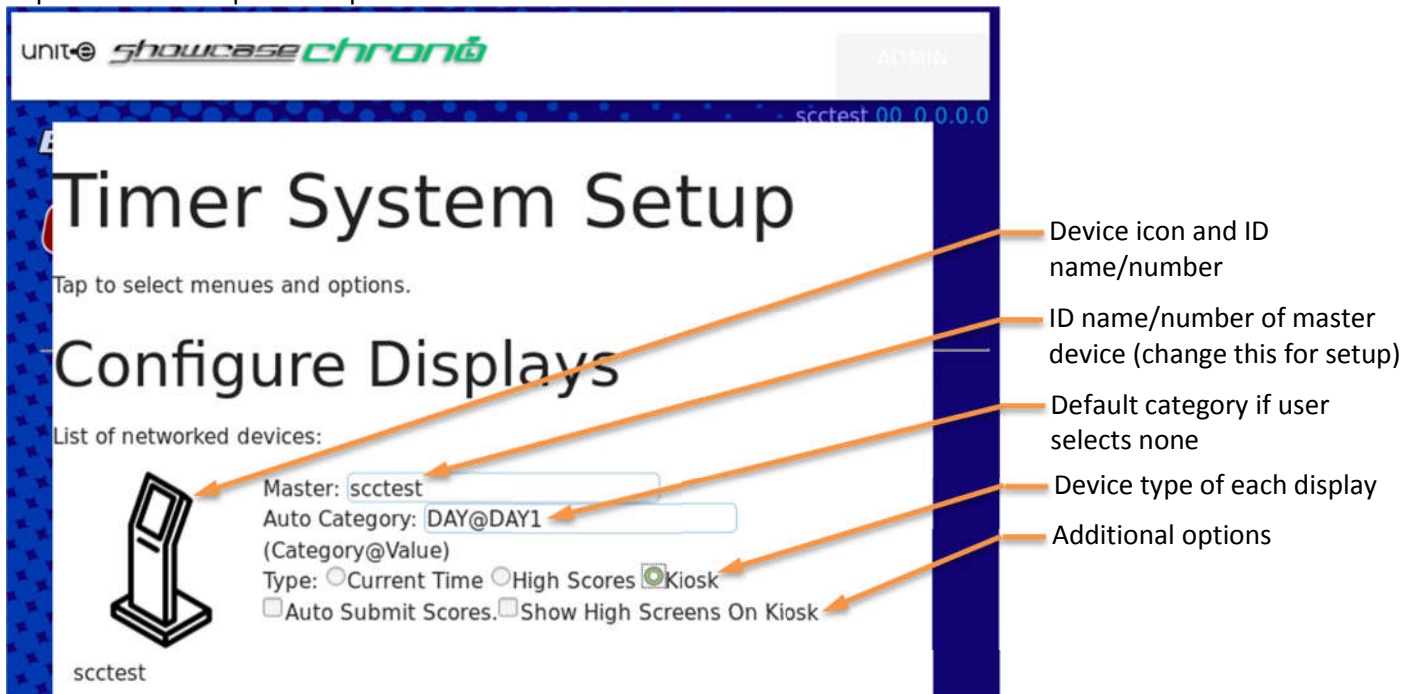

Figure 8: Configuring displays in the service menu.
- Master ID** – This is the device ID (seen under the device icons on the left) of the master device. There will always be one master in a timer setup and it is typically the kiosk. Even the kiosk needs to have itself set as its master. Note how in Figure 8 “sccsetup” is the kiosk’s device ID and it also has “sccsetup” set as the master; this is the correct configuration for this device.
For standard usage, each device must have the correct type set in the “Type” section of its configuration as seen in Figure 8; the kiosk device will be a “Kiosk” and big screen devices either a “Current Time” or “Leaderboard”. It is also important that “Auto Submit Scores” be unchecked for deluxe systems with a touch screen. For basic systems, it should be checked for the kiosk, since users will not be able to touch the button to submit their score. It should always be unchecked for big screen displays.